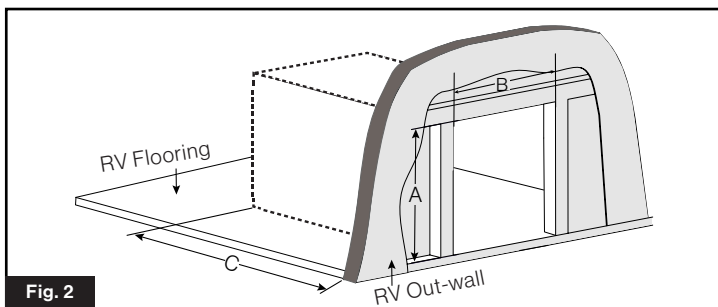
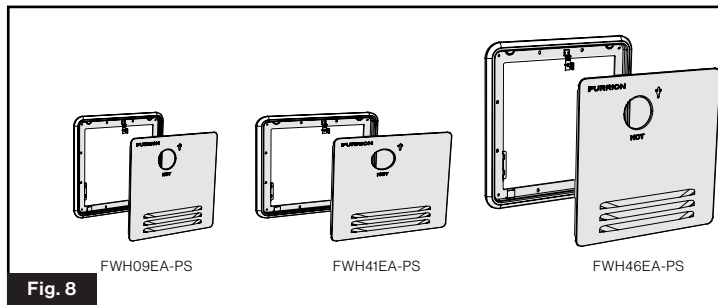

Fig. 2
Fig. 8
- Create a cutout with the following dimensions A and B of Fig. 2.
2. The opening may need to be adjusted to accommodate installation requirements of Fig 2. Refer to the door assembly packaging for additional installation instructions, requirements and options for resizing the opening. (Fig. 8)
1. Locate entry point for the plumbing to service the rear of the appliance. Ensure entry point is not in the footprint space of the appliance. (Fig. 2)
2. Locate entry point for the wiring to service the rear of the appliance. Ensure entry point is not in the footprint space of the appliance (Fig. 2) Make sure any edges are protected to prevent wire abrasion from occurring.